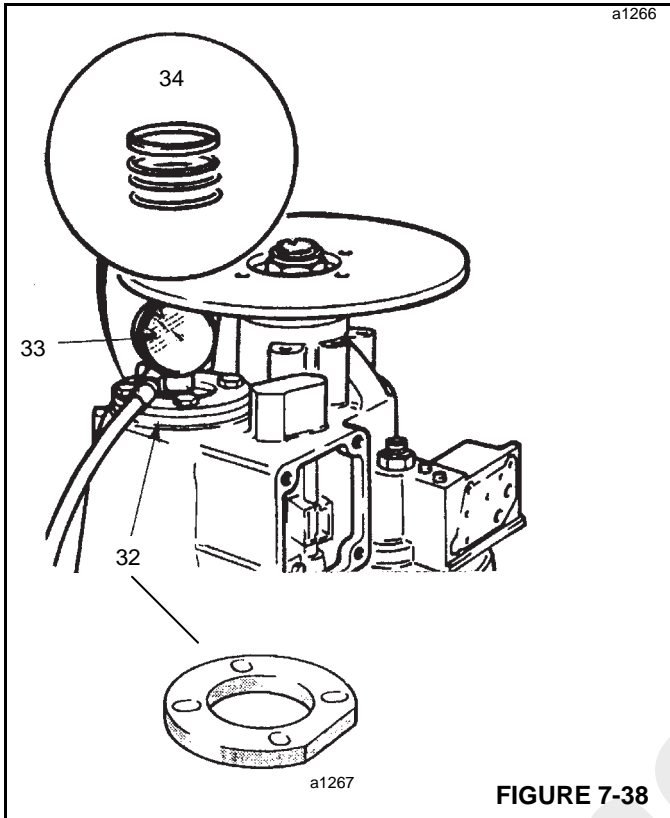

FIGURE 7-38
32. Remove the layshaft bearing cap and substitute tool (32, Figure 7-38) together with a new gasket. Tighten securing bolts to a torque of 56 Nm (42 lb-ft).
33. Measure layshaft end play (33), which should be 0.03 to 0.08 mm (0.001 to 0.003 in).
34. Add or subtract shims (34) to correct end play. Install shims between outer race and spacer.